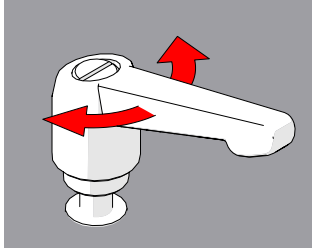

Fig. 65 - Rotate handle
2. Continue to pull while rotating the lever in the appropriate direction (*Fig. 65*).